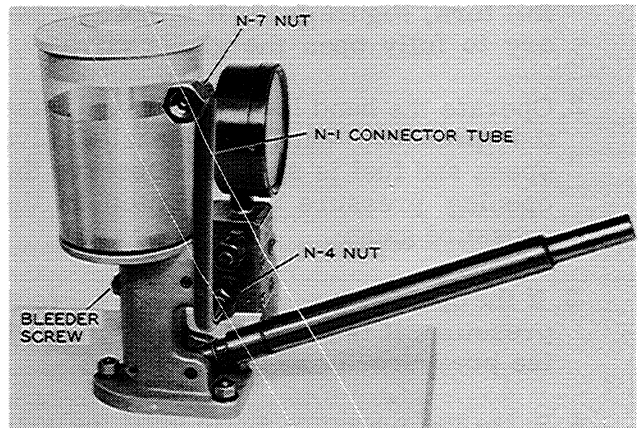

Figure I-14. Preparing Test Stand for Operation
1. After filling the test stand fuel tank, loosen the bleeder screw, Figure I-14.
3. Wash the connector tube in clean diesel fuel, blow it clean with filtered compressed air, and connect it securely to the test stand, as shown in Figure I-14. Operate the hand lever slowly until clean fuel flows from the tubing. Flush the tubing out thoroughly in this manner.